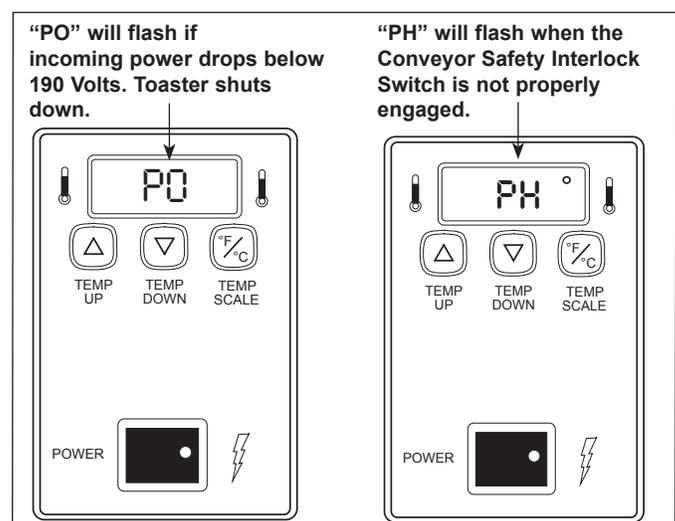
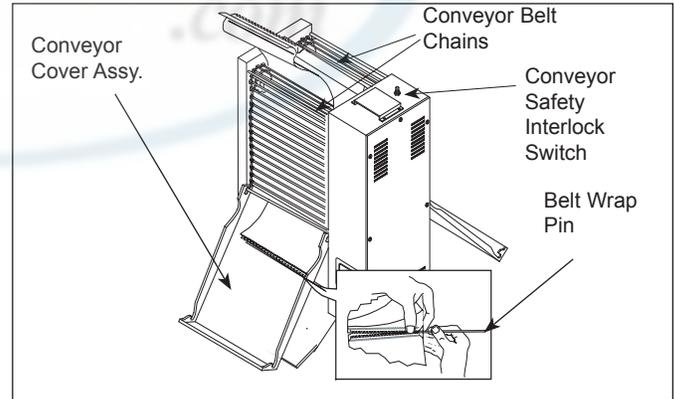

Figure 9. “PO” and “PH” Fault Messages
Figure 11. Removing Belt Wrap
- The “PH” fault message (Figure 9) is displayed if the Conveyor Interlock Safety Switch (Figure 11) is not properly engaged. When a PH fault exists, reposition the Heat Shield so that it fully engages the Conveyor Safety Interlock Switch. The unit should return to normal operation when the Heat Shield is positioned correctly.
3. Open both Conveyor Covers and pull the Belt Wrap Pin out of the "zipper" (Figure 11).
5. Clean both Conveyor Belt Chains just as you would clean the Belt Wraps during daily cleaning (Figure 11).